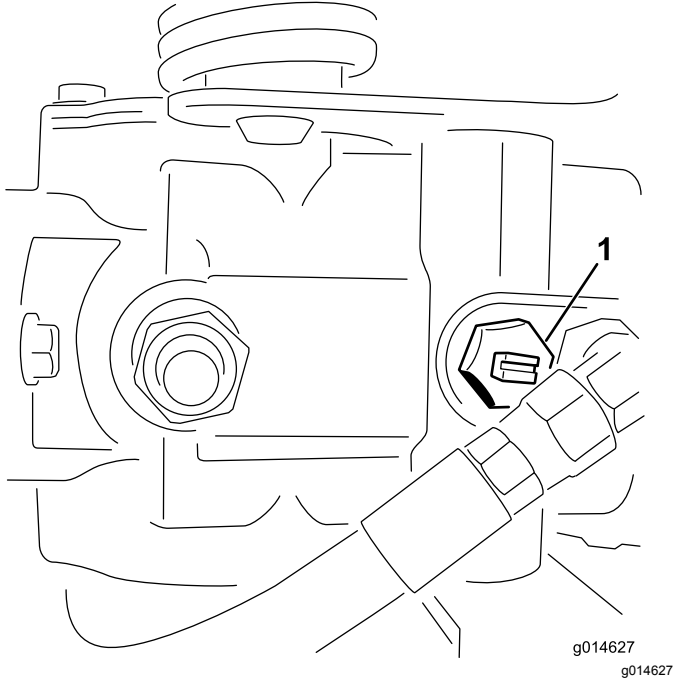

Figure 24
1. Locate the bypass valve on the pump and rotate it so that the slot is vertical (Figure 24).
2. Before starting the engine, close the bypass valve by rotating it so that the slot is horizontal (Figure 24).